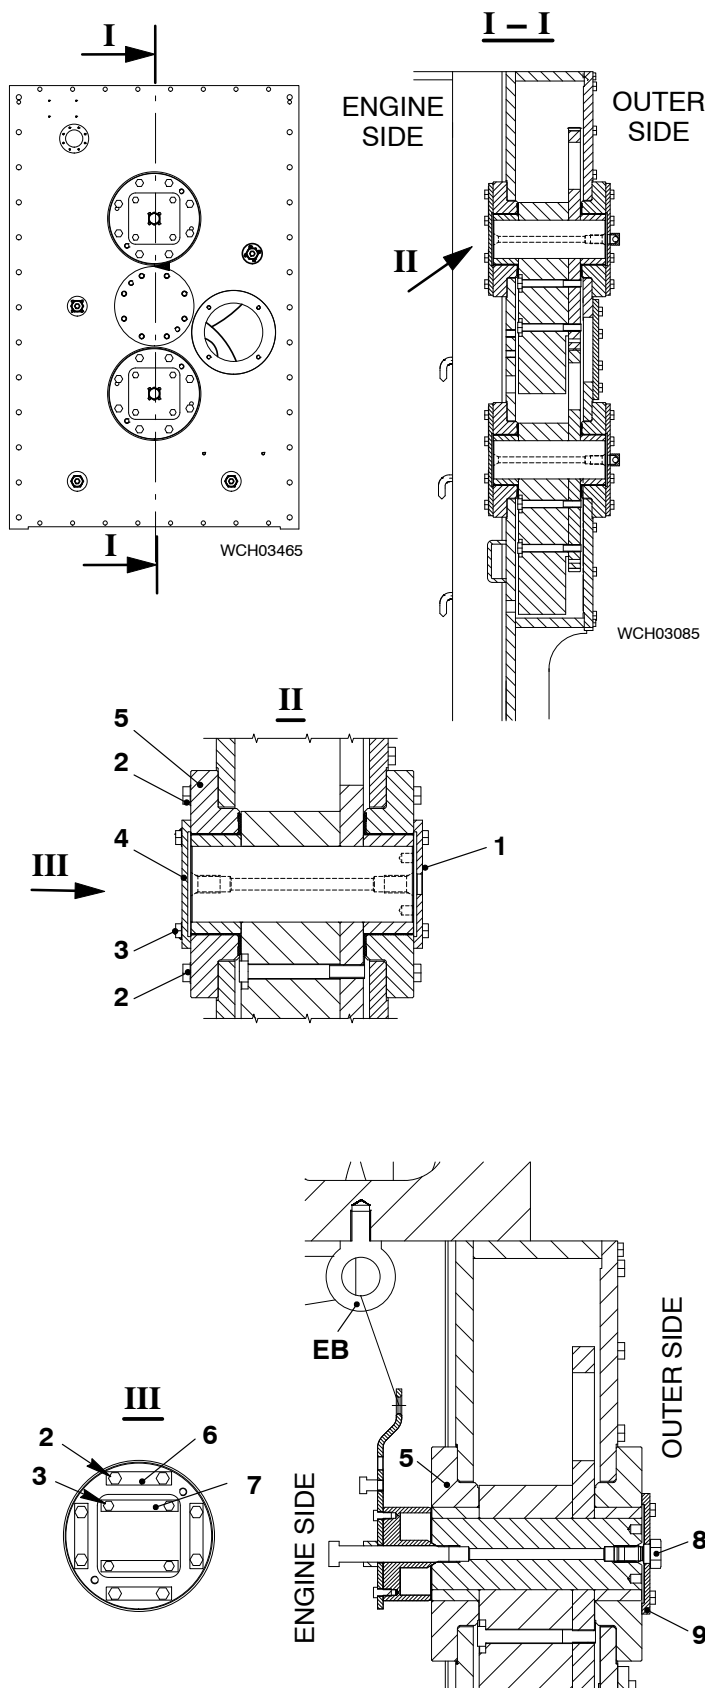

Fig. 4
- 1) Attach an eye bolt to the applicable position in the gallery above the bearing (5, Fig. 4). Attach an applicable manual ratchet to the eye bolt.
- 3) Put the special screw (8) through the bearing cover (9) on the outer side.
- 4) Torque the special screw (8) to 150 Nm.
- 5) Remove the four screws (3) and the locking plates (7) on the bearing cover at the engine side.
- 6) Remove the bearing cover (4).
- 7) Remove the eight screws (2) and the locking plates (6) from the bearing (5).